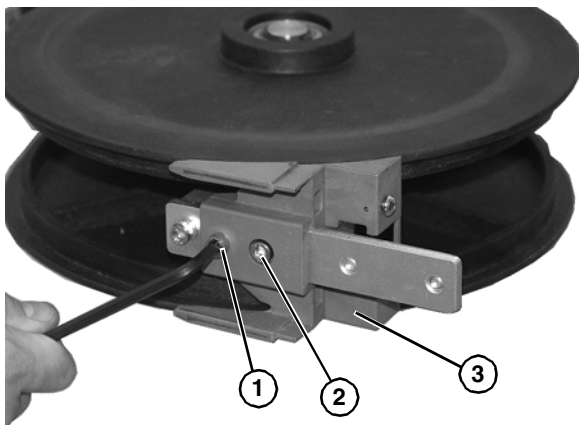

Figure 77
1. Remove socket head screw (Figure 77, item 1) and socket head screw (Figure 77, item 2) from corner wheel assembly pinch bracket (Figure 77, item 3).